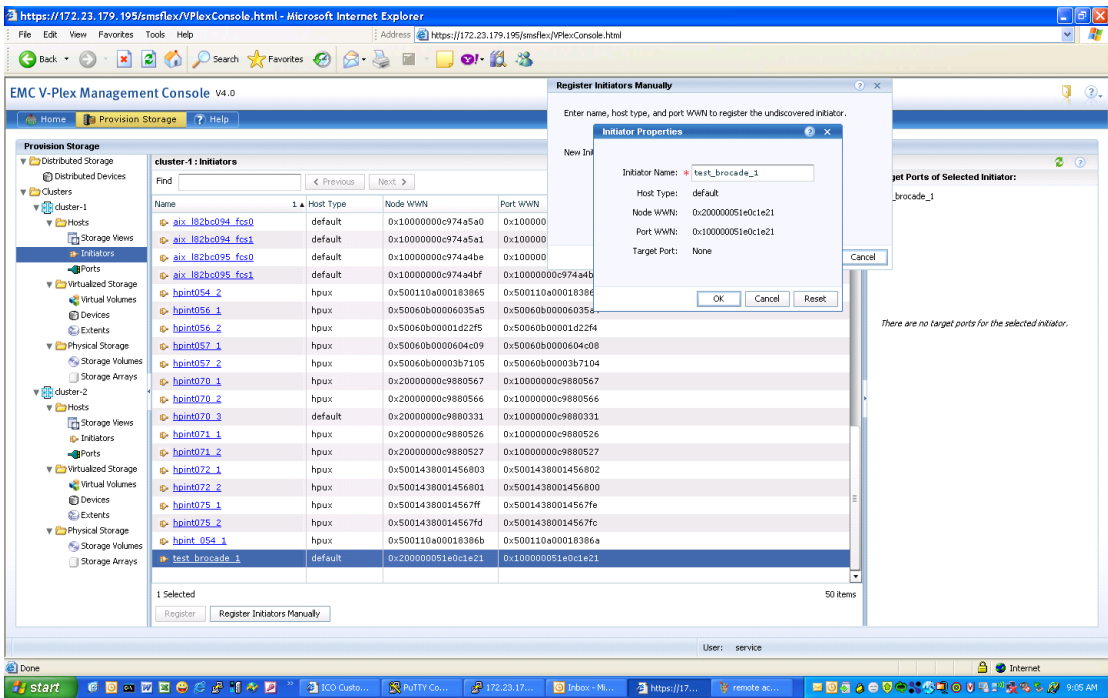

Figure 35 Register initiators
2. Registering initiators, as shown in Figure 35.